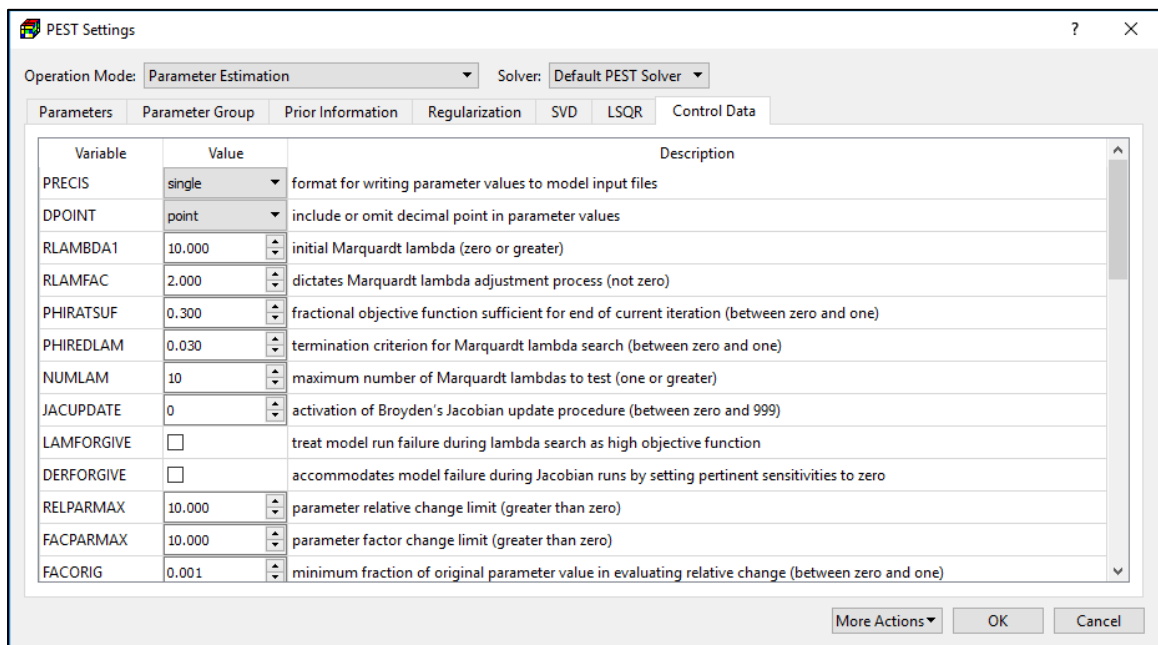

Figure 114. The Control Data tab of the PEST Settings dialog box
10. Control Data Tab (Figure 114): This section provides a brief explanation of the control data. For detailed discussion, see Section 4.2 of the Part I of the PEST Manual (Doherty, 2016).